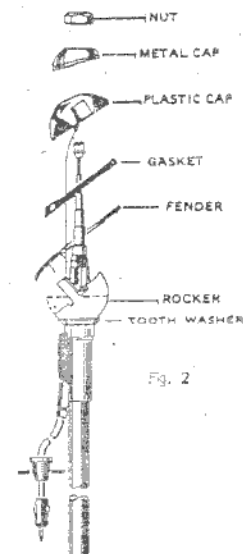

Fig. 2
- 1.4 Attach rocker to antenna (Fig. 2).